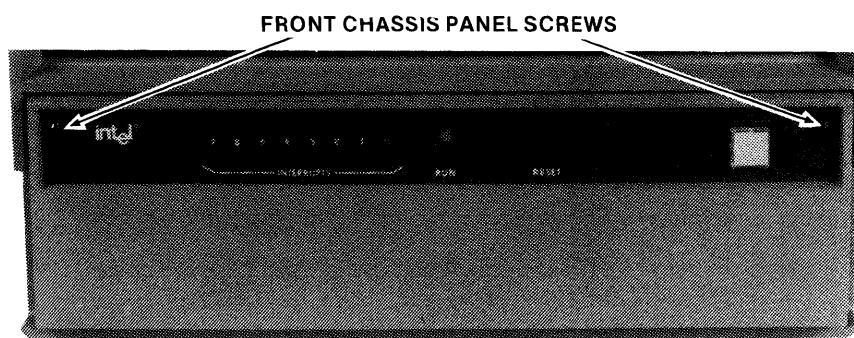
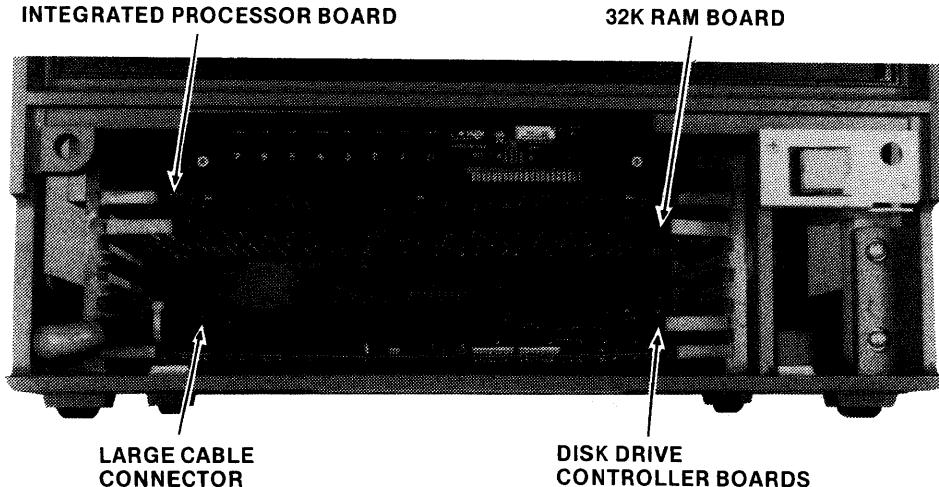

Figure 2-8. Intellec Series II Front Chassis Panel
Figure 2-9. Intellec Series II Cardcage
9. Face the front of the system, as shown in Figure 2-8. Remove the front chassis panel by rotating the two mounting screws counter-clockwise and pulling the panel off. Remove the foam packing material. Refer to Figure 2-9, which shows the boards in their slots in the card cage. Remove the printed circuit board